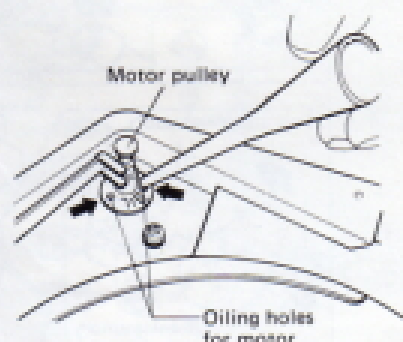

Fig. 1
5. Apply one or two drops of the lubricating oil to the hole (Fig. 1).